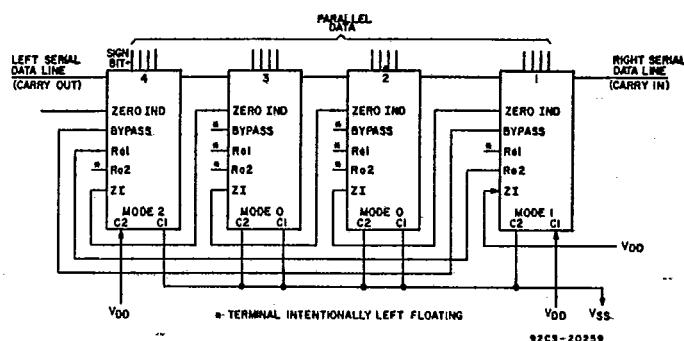

Fig. 11 — Connection for 16-bit arithmetic logic unit.
Data-flow interruptions are shown by shaded areas. With these three ALU's and the four available modes, 61 more system combinations can be formed. If 4 ALU's are used, 44 combinations (256) are possible. *Fig. 11* shows a diagram of 4 CD4057A's interconnected to form a 16-bit parallel processor.
The condition of "all zeros" is indicated by a "1" on the Zero Indicator terminal of the "Most Significant" CD4057A. As shown in Fig. 11, terminal ZI of the CD4057A containing the least significant set of bits is connected to V_{DD} . Zero indication is independent of modes.